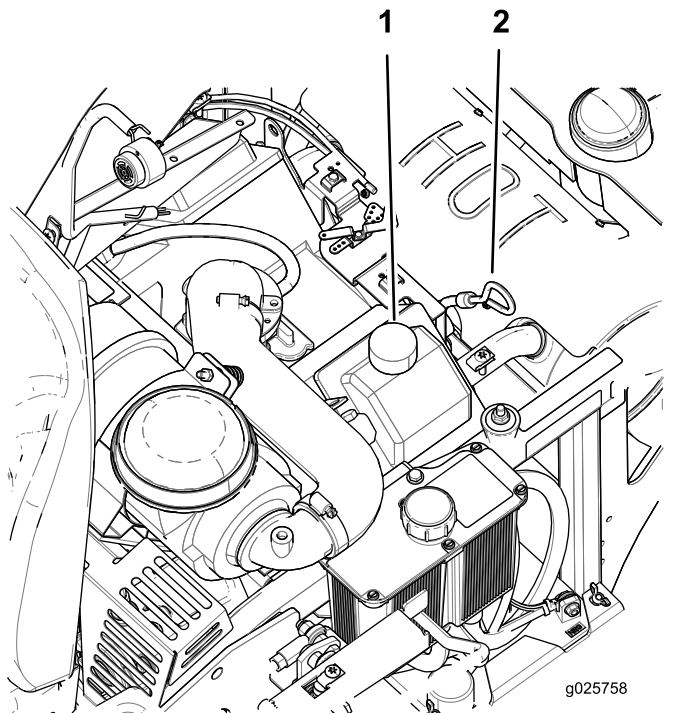

Figure 36
4. To keep dirt, grass clippings, etc., out of the engine, clean the area around the oil-fill cap and dipstick before removing it (Figure 36).
8. If the oil level is low, wipe off the area around the oil-fill cap, remove cap and fill to the **full** mark on the dipstick (Figure 36).
5. Slowly pour approximately 80% of the specified oil into the filler tube and slowly add the additional oil to bring it to the **full** mark on the dipstick (Figure 36).
6. Start the engine and drive to a flat area. Check the oil level again (Figure 36).